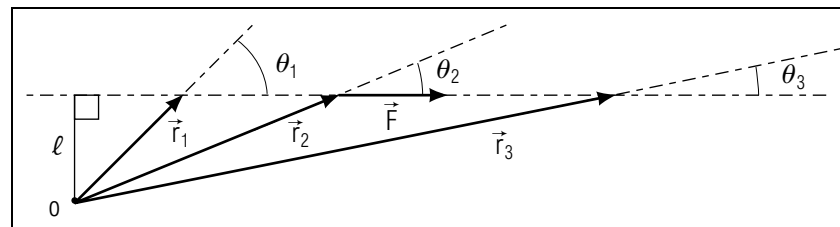

Figure 10. A force, \vec{F} , shown with three possible position vectors.
3c. Torque is Independent of Choice for \vec{r} . The vector \vec{r} that is used to find a torque is not unique. Figure 10 shows only three of an infinite number of \vec{r} vectors which could be drawn from point O to the line of action of the force \vec{F} . Based on this diagram and the definition of torque, Eq. (7), we get:
Using Fig. 10, we see that: